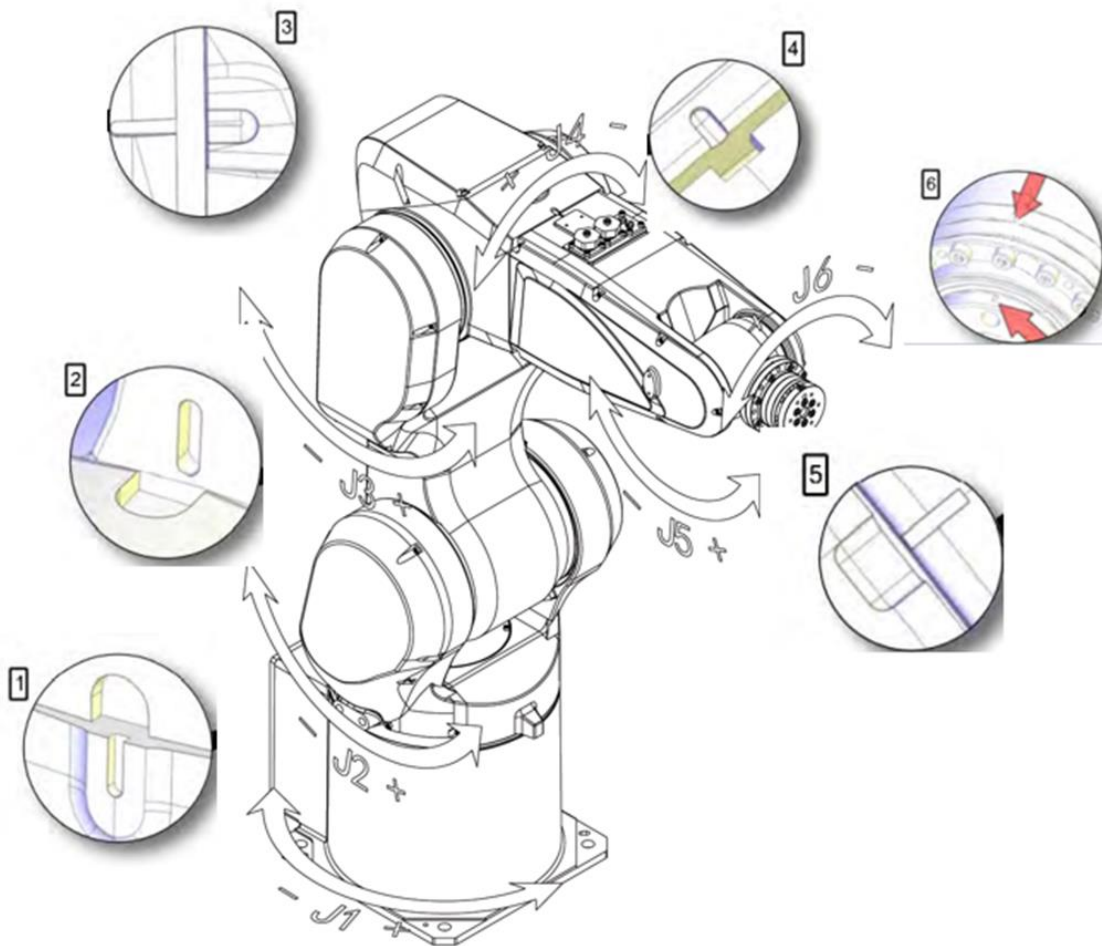

Fig. 7.8 Mechanical Zero Position Mark of GBT-P7A
1. For a six-axis robot, align the zero-point reference marks of all axes (see Fig. 7.8)